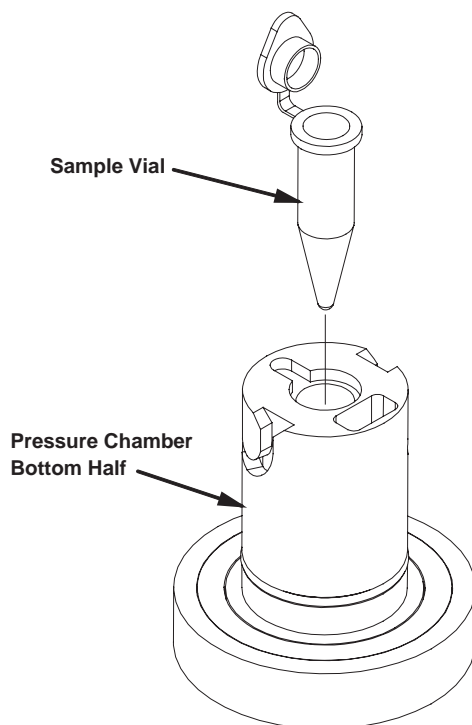

Figure 4-1
3. Insert and open the sample vial as shown in Figure 4-1. Use caution not to contaminate the sample.